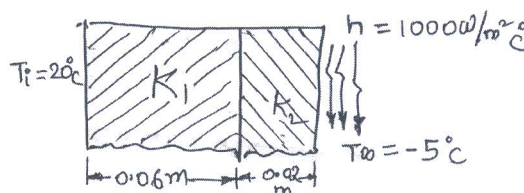

Fig.Q7(b)
b. Determine the temperature distribution through composite wall shown in Fig.Q7(b) when the convective heat loss occurs on the right surface. Take $K_1 = 6 \text{ W/m}^\circ\text{C}$ and $K_2 = 20 \text{ W/m}^\circ\text{C}$. (10 Marks)